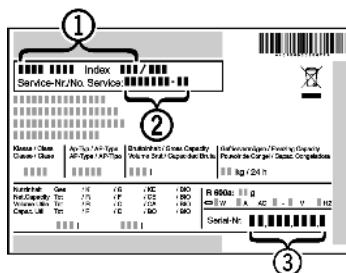

Fig. 36
- ▶ Read the appliance designation Fig. 36 (1), service no. Fig. 36 (2) and serial no. Fig. 36 (3) from the rating plate. The rating plate is located inside the appliance on the left-hand side.
- ▶ Notify a qualified service provider, specifying the fault, appliance designation Fig. 36 (1), service no. Fig. 36 (2) and serial Fig. 36 (3) no.